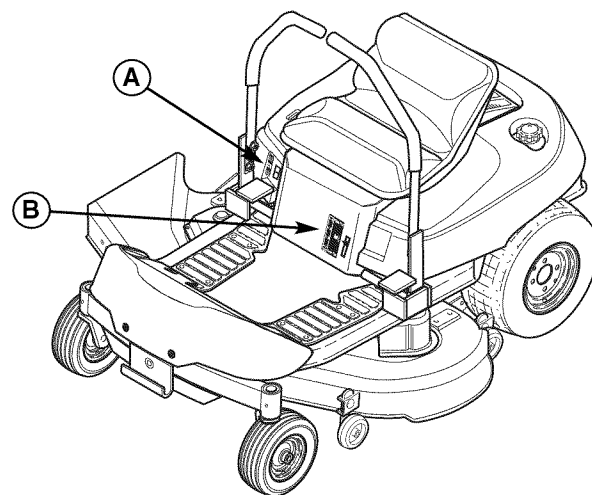

Figure 37. Cutting Height Adjustment
To increase the mower cutting height (raise the mower deck), press the top of the mower cutting height switch (A, Figure 37). To decrease mower cutting height (lower the mower deck), press the bottom of the switch. Mower cutting height range is 3-3/4" to 1-1/2" (9,5-3,8 cm). The cutting height gauge indicates the position of the mower deck. The cutting height gauge (B) is located on the front of the rider, just behind the driver's left leg.